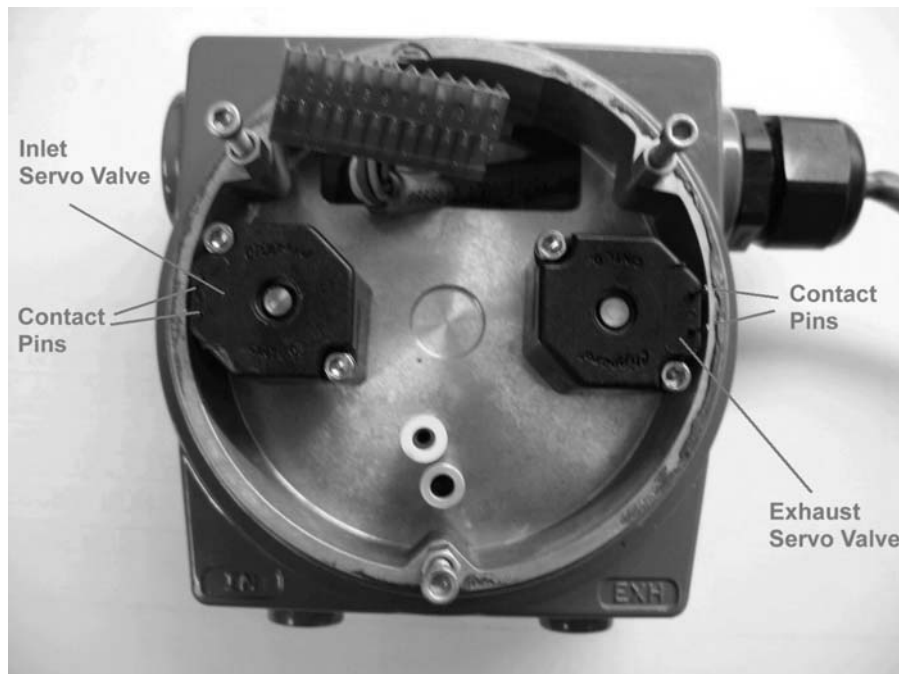

Figure 12 Servo Valves in Pressure Controller
3. See Figure 12. Use a hex socket key (Allen key) to remove the screws mounting the valves and remove both servo valves.
4. Mount the new valves with the screws, paying attention to the orientation of the contact pins, seen in Figure 12. The contact pins must be in the proper place to properly reconnect to the circuit board.